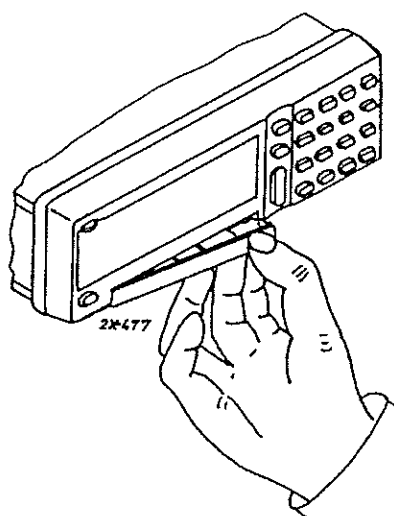

Figure 5.
4. Put the front panel back on the radio (Fig. 5)